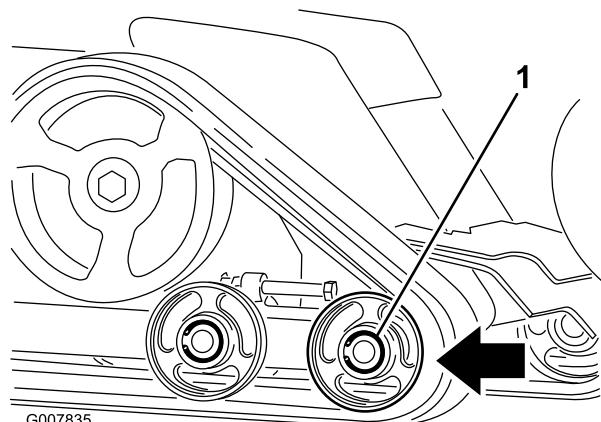

Figure 47
6. Push the front road wheel rearward as far as it can go (Figure 47).
8. When the track is off the road wheel, remove it from the machine (Figure 47).
9. Beginning at the drive sprocket, coil the new track around the sprocket, ensuring that the lugs on the track fit between the spacers on the sprocket (Figure 47).
10. Push the track under and between the rear and center road wheels (Figure 47).